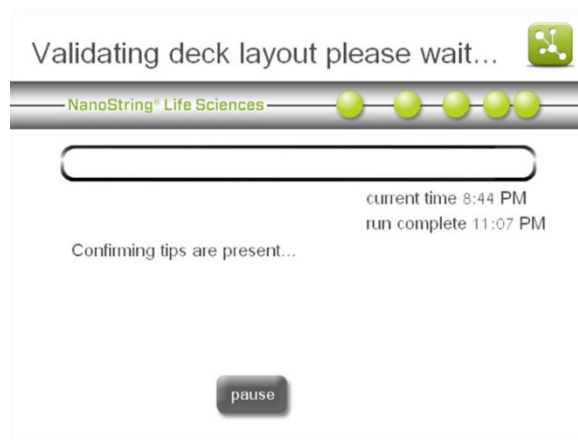

Figure 34: The 'Validating deck layout' screen.
16. The 'Validating deck layout' screen will appear (**Figure 34**).